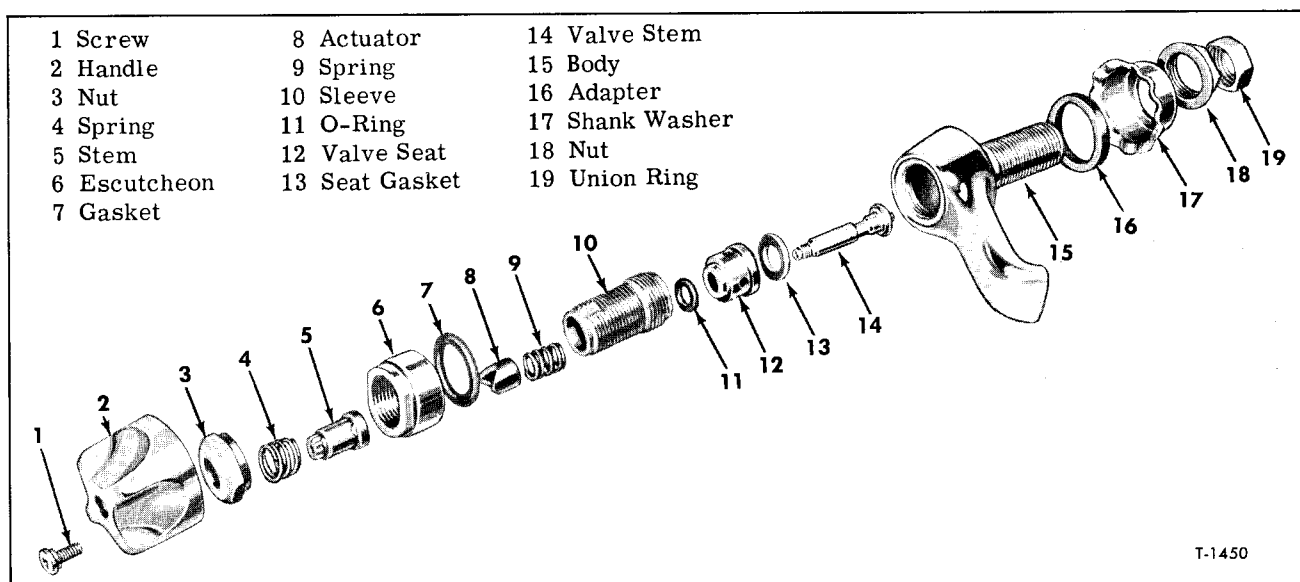

Figure 14—Water Faucet Components
Key numbers in text refer to figure 14.
- Key numbers in text refer to figure 14.
1. Place O-ring (11) against seat of sleeve (10).
2. Position lip of valve seat (12) against O-ring (11) in sleeve (10), then place gasket (13) against seat (12).
3. Press valve stem (14) into sleeve (10) until tight against gasket (13), then install spring (9) over valve stem.
4. Hold valve stem and install actuator (8) on